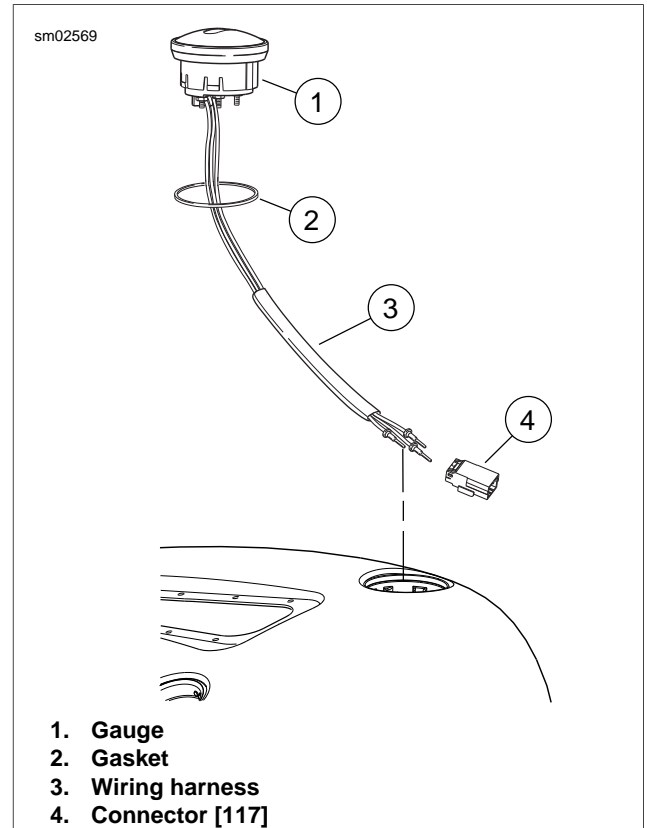

Figure 8-38. Fuel Gauge: All but FXD
5. See Figure 8-38. Pull up on gauge (1). Remove gauge, gasket (2) and wiring from fuel tank. Discard gasket.
1. See Figure 8-38. Install wiring harness (3) through **new** gasket (2).
3. While gently pulling on wiring harness, install gauge (1) and gasket by carefully moving gauge back and forth while pushing down at the same time.
4. Install wiring into connector (4) [117]. Mate connector halves.